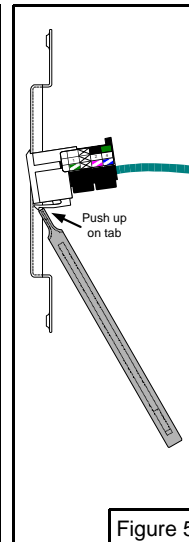

Figure 5
- Snap the module back into the Decora® plate while pushing up on the tab. **(Figure 5)**